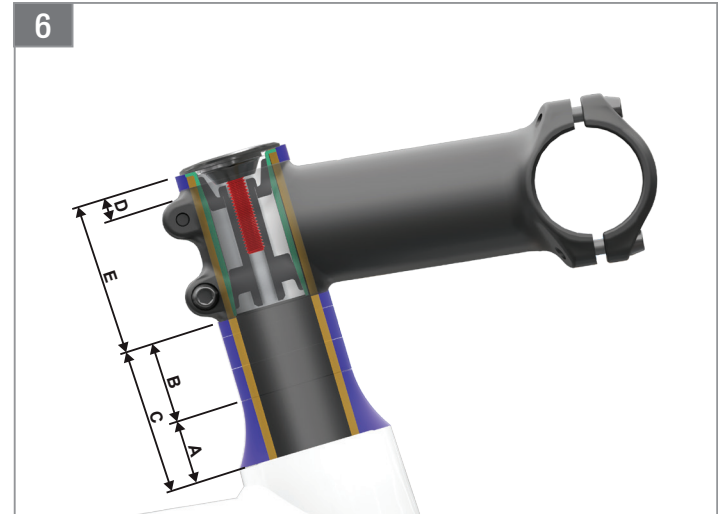

FIG. 6
- Install the front end (fork, headset, headset spacers, stem, handlebar, wheels) on the frame then determine the rider's fit. Don't install more than 30 mm of spacers between the stem and the headset cover (FIG. 6).
Make sure to determine the appropriate rider stem height before cutting the steerer tube. Ideally, the steerer tube should be cut 3 mm below the top of the stem. Alternatively, one optional 5 mm solid spacer may be placed above the stem (FIG. 6). In that case, the steerer tube should be cut 3 mm below the 5 mm solid spacer.